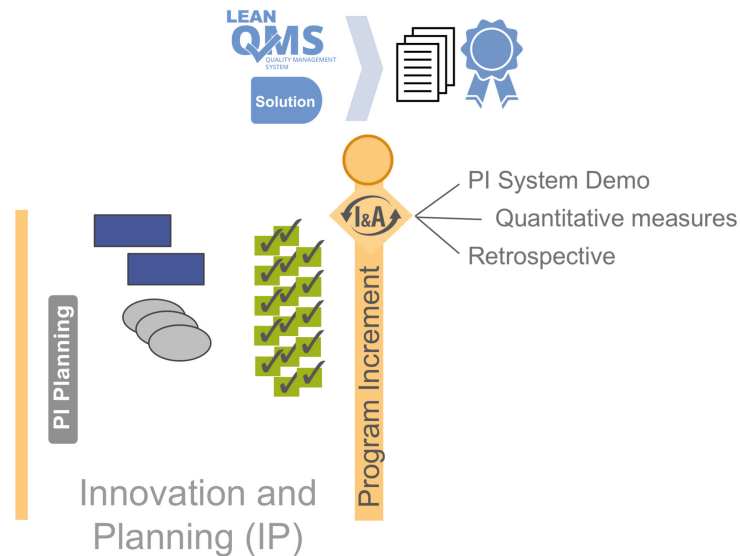

Figure 16. Program Increments help ARTs assess V&V and compliance progress
Program Increment (PI) boundaries provide additional opportunities to conduct V&V activities incrementally and assess progress towards compliance, as shown in Figure 16. In SAFe, each PI ends with an Innovation and Planning (IP) Iteration that provides, among other things, time to integrate and assess the results of the last PI and collect metrics to support the PI’s Inspect & Adapt (I&A) workshop. I&A is a regular time to reflect, collect data, solve problems, and take